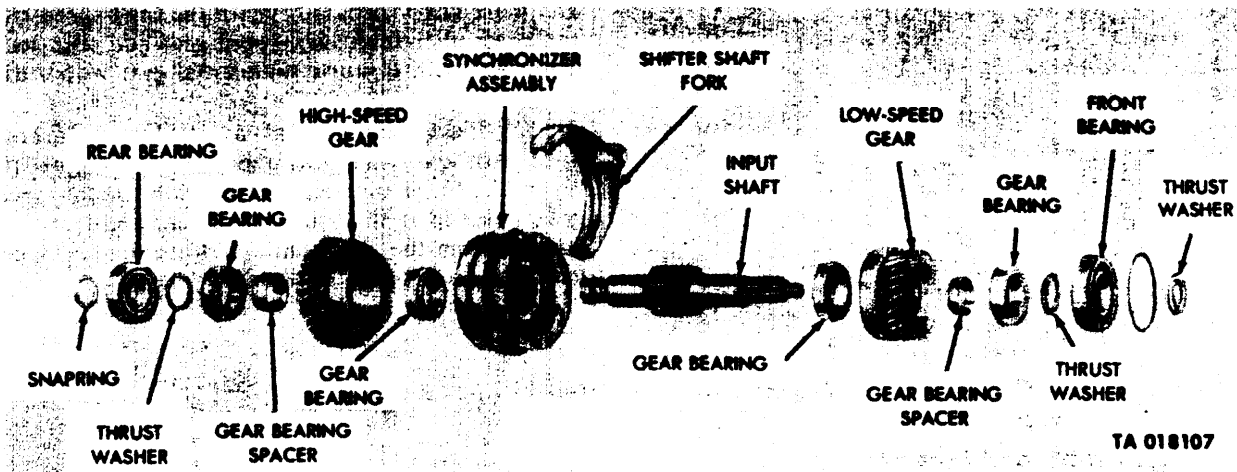

Figure 4-38. Input Shaft Disassembly — Exploded View.
(1) Remove the shifter shaft fork from the synchronizer assembly. (See fig. 4-38.)
(2) Remove the input shaft rear bearing snapping from the end of the input shaft. (See fig. 4-38.) Place the input shaft assembly in an arbor press with the rear bearing and high-speed gear up. Install a suitable puller around the input shaft high-speed gear and press the high-speed gear free from the shaft. Removal of high-speed gear in this manner will push the gear bearing spacer, gear bearing, thrust washer, and rear bearing from the input shaft.
(3) Place the high-speed gear in a press and press high-speed gear ball bearings and high-speed gear bearing spacer from the bore of the high-speed gear. (See fig. 4-38.) Apply pressure to the inner race of the bearing only.
(4) Slide synchronizer assembly from the input shaft. (See fig. 4-38.)
(5) Place the input shaft assembly in an arbor press, front bearing up. (See fig. 4-38.) Place support bars beneath the low-speed gear, and press the low-speed gear, gear bearing, thrust washer, and front bearing from the shaft.
(6) Place the low-speed gear in a press and press low-speed gear bearings, and gear bearing spacer from low-speed gear. (See fig. 4-38.) Apply pressure to the inner race of the bearing only.
- g. Input shaft assembly (fig. 4-38).